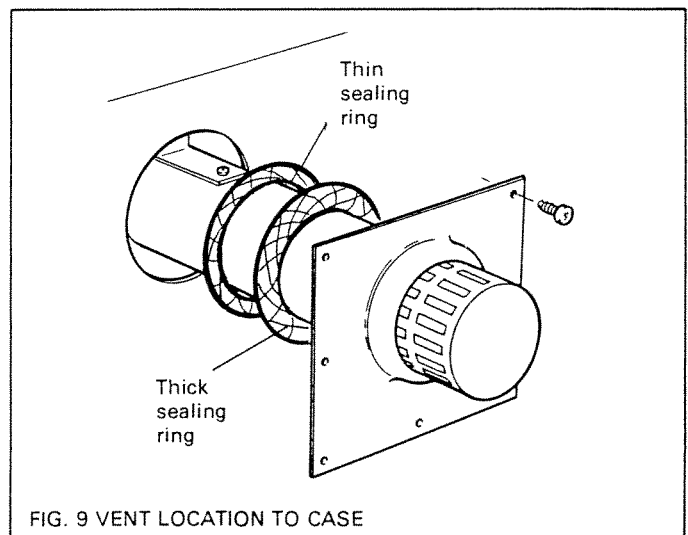

FIG. 9 VENT LOCATION TO CASE
- (e) Secure the locating plate to the back of the outer case using the seven #8 thread tapping screws provided (see fig. 9).